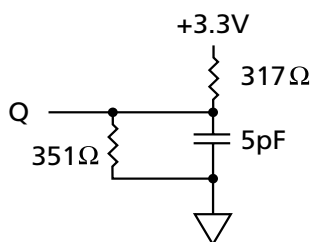
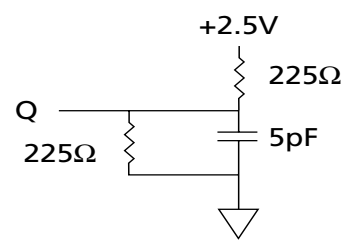

Figure 2
Figure 4
5. This parameter is measured with output loading as shown in Figure 2 for 3.3V I/O and Figure 4 for 2.5V I/O.